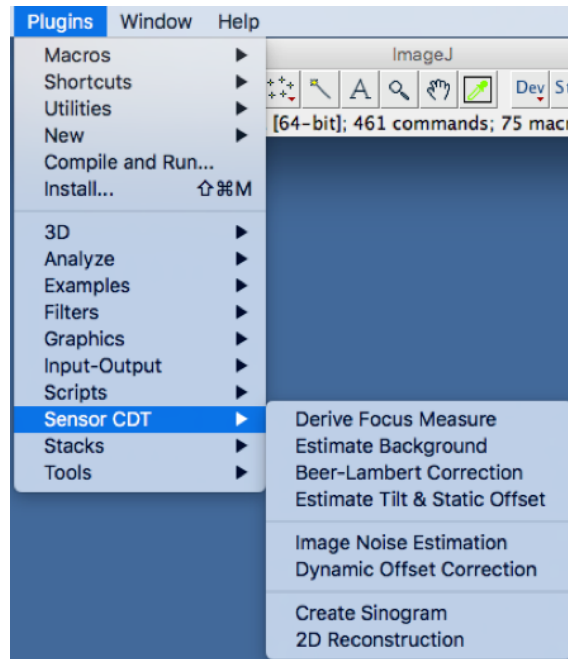

Figure 7: The OptiJ Plugin Library.
3. Save the *.jar* file in the plugins folder as shown in figure 7.
5. The OptiJ plugins should now appear under the *Plugins* tab in ImageJ as shown in figure 7. There should be 8 plugins: Derive Focus Measure; Estimate Background; Beer-Lambert Correction; Estimate Tilt & Static Offset;
2. Run the *Create Sinogram* plugin from the ImageJ *Plugins* tabs under the *OptiJ* group as shown in figure 7.
3. Run the 2D Reconstruction plugin from the ImageJ Plugins tabs under the OptiJ group as shown in figure 7.